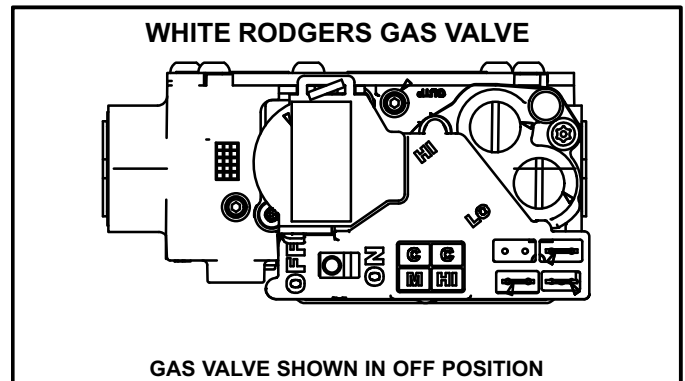

FIGURE 2
Operating the Gas Valve (Figures 2 and 3)
- 6 - Move switch on gas valve to **OFF**. Do not force. See figure 2 or 3.
- 8 - Move switch on gas valve to **ON**. Do not force. See figure 2 or 3.
- 4 - Move switch on gas valve to **OFF**. Do not force. See figure 2 or 3.